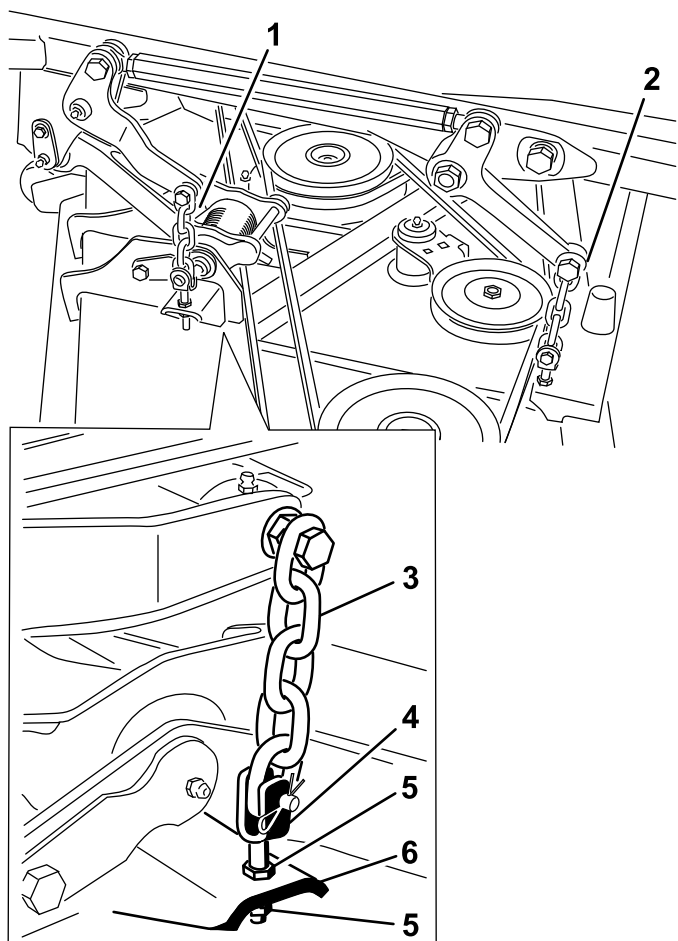

Figure 26
8. Adjust the jam nuts securing the cutting unit yokes/chains to the mower until the cutting unit is level (Figure 26).